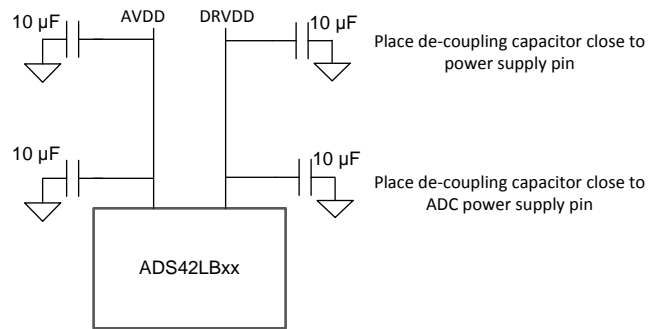

Figure 90. Recommended Placement of Power Supply De-coupling Capacitors
- Connect decoupling caps directly to ground and place close to the ADC power pins and the power supply pins to filter high-frequency current transients directly to the ground plane. This is illustrated in Figure 90.